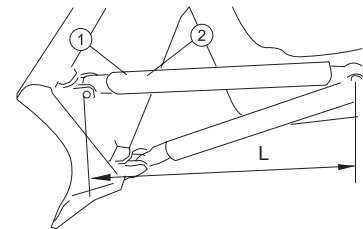

Figure 2-78
b. Loosen jack bolt (1), insert an iron bar into the hole of the support rod (2) to rotate the support rods on the two sides, to elongate and shorten them respectively. Tilt the blade to the required height, and then tighten jack bolt. (Figure 2-78)
- L, the length of the support rod (Figure 2-78), is generally 1338mm, and the blade's tilt should be within 500mm.